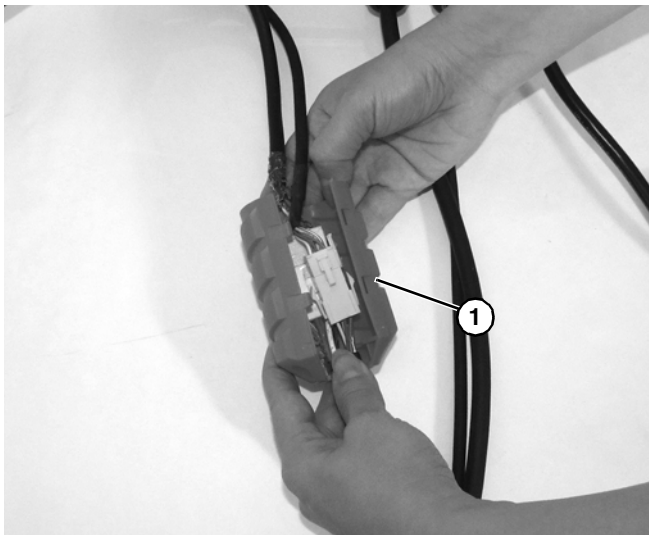

Figure 39
3. Open inner cord cover (Figure 39, item 1).